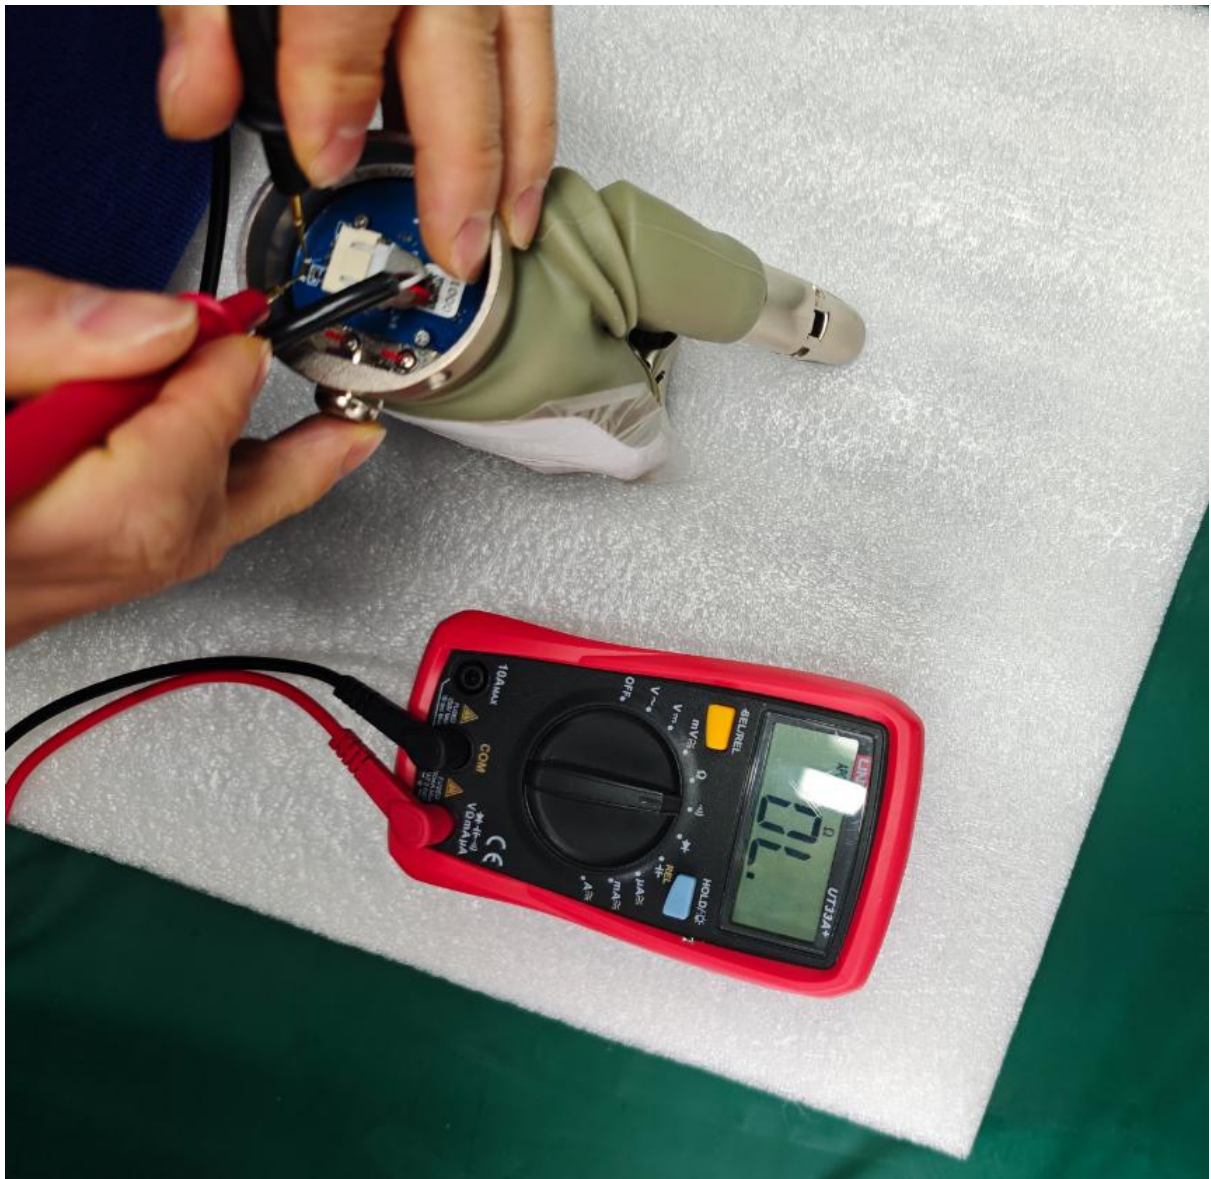

Figure 2
2. Set the multimeter to resistance/continuity mode. Test as shown in Figure 2. The reading should be open (infinite resistance, not near 0 Ω).: